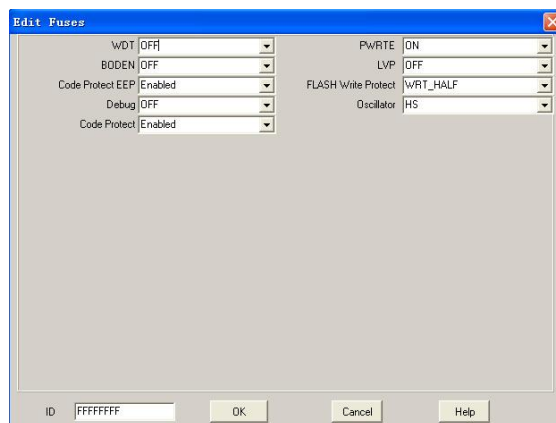

Figure 6-9 Config Information
- 4) Execute menu command Option → View/Edit fuses AND ID or “Fuses” button to set the parameters. After that the interface will be shown as Figure 6-9. Click OK to save the settings.